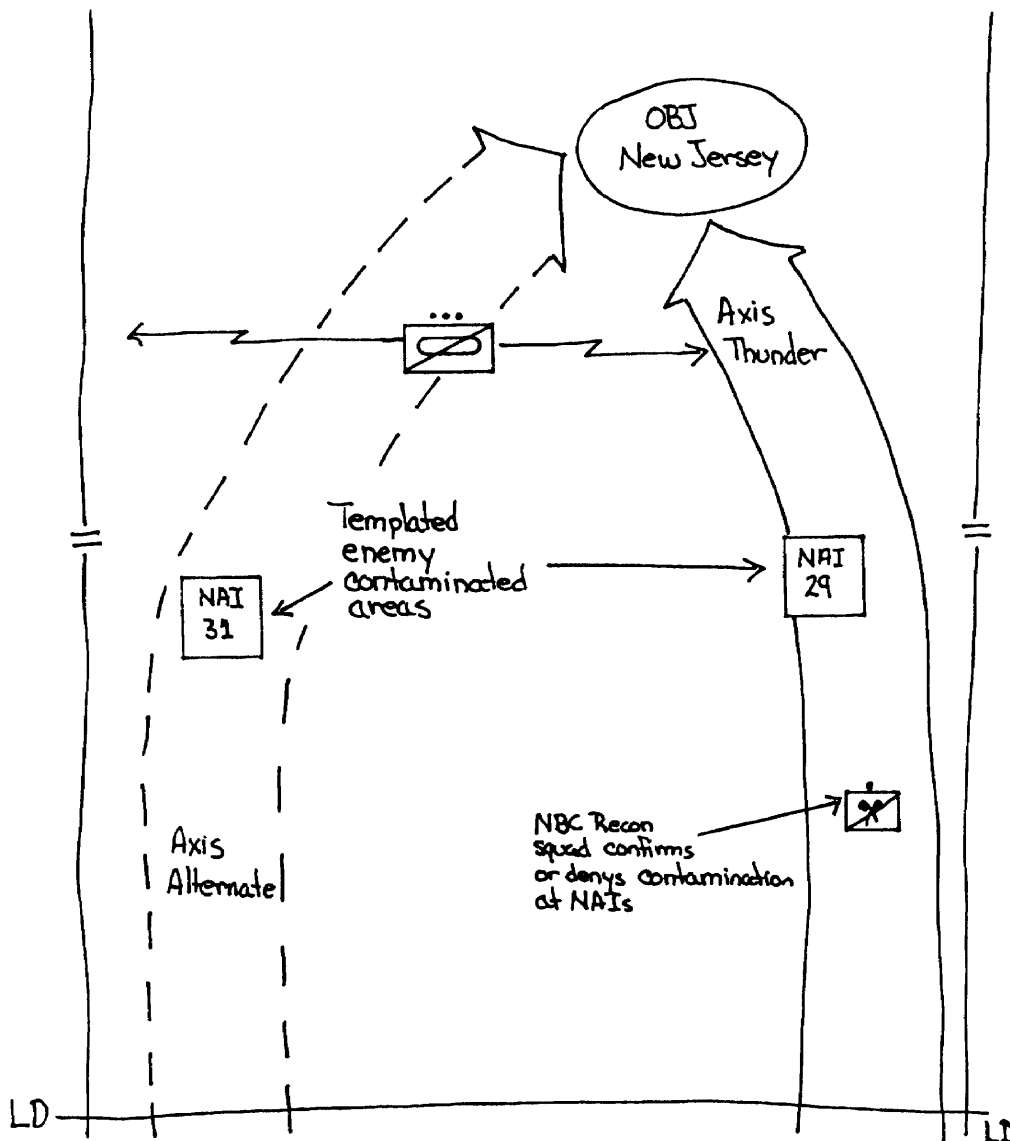

Figure 5-4. Battalion/task force supported by an NBC reconnaissance squad.
Figure 5-4 (page 5-4) is an example of a battalion task force (TF) supported by an NBC recon squad. The NBC recon squad is attached to the TF's scout platoon. The S2 and chemical officer have templated a possible persistent chemical attack that could influence maneuver along the TF's planned axis of advance. The NBC recon squad has the mission of performing a route recon along the TF's planned axis to the designated NAI. The NBC recon squad will confirm or deny the presence of contamination at the NAI. The main body of the scout platoon will cross the line of departure three hours before the NBC recon squad. A tank platoon will be on standby to assist the NBC recon squad if the squad contacts enemy forces and cannot break contact. The scouts moving ahead of the NBC recon squad provide a minimum of security to the NBC recon squad.